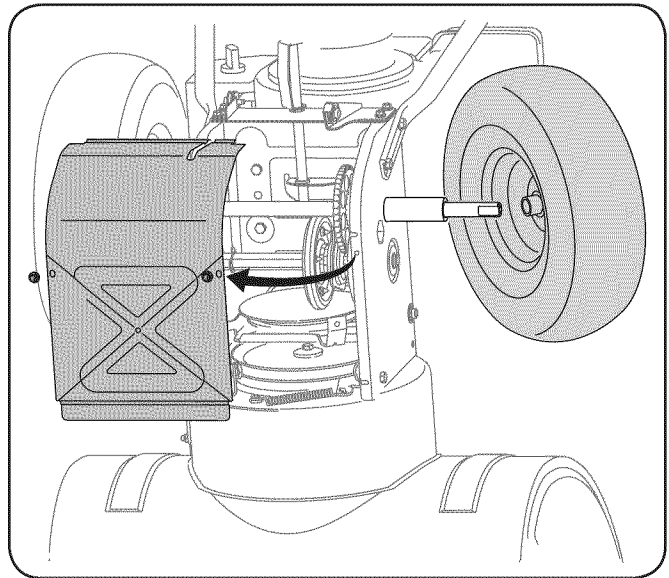

Figure 8-8
- Remove the frame cover from the underside of the snow thrower by removing four self-tapping screws which secure it. Remove the right-hand wheel by removing the screw and bell washer which secure it to the axle. See Fig. 8-8.